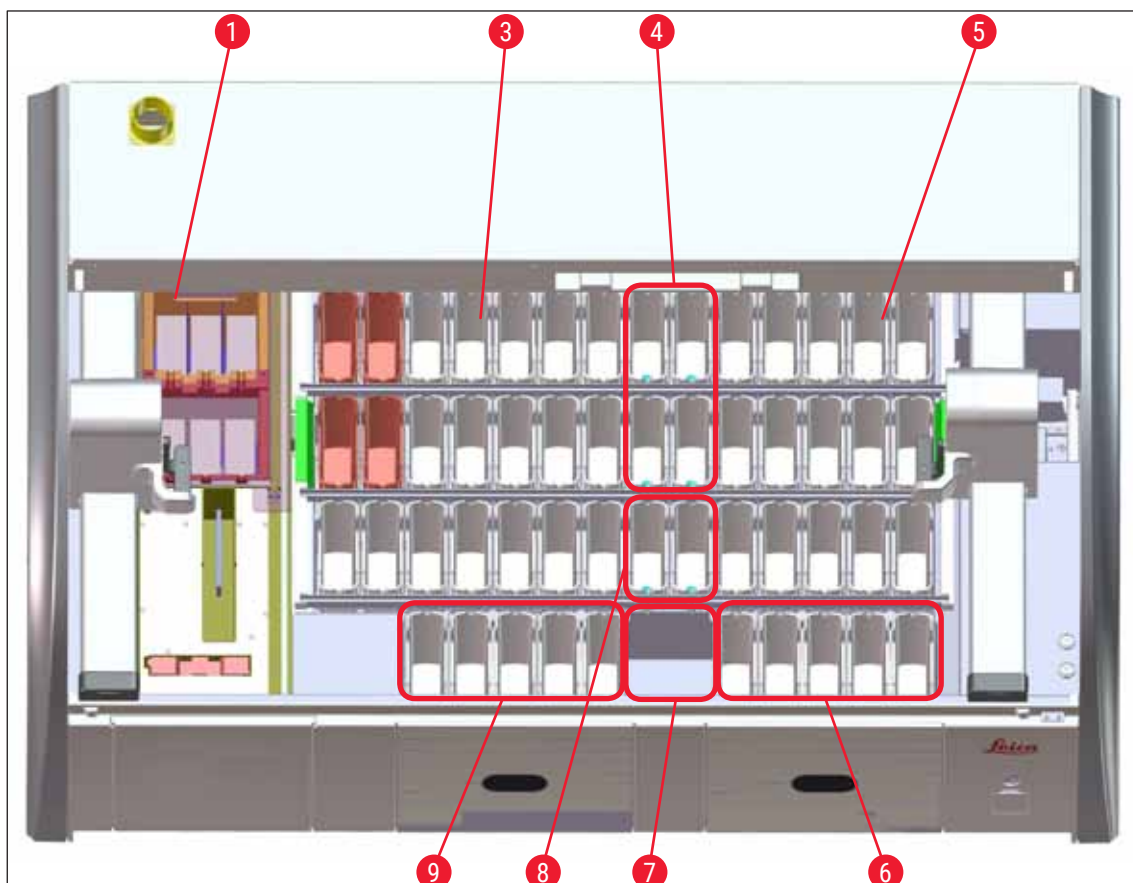

Fig. 65
- Duplicate stations have to be on the same side of the vessel field (→ "Fig. 40") (→ "Fig. 65"), otherwise the adjustment to the bathlayout cannot be saved.
- (→ "Fig. 65") shows an overview of the various stations in the vessel field.